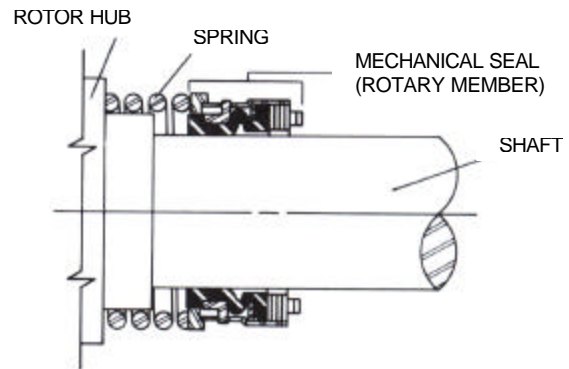

FIGURE 12
5. Place seal spring on shaft against rotor hub. Refer to Figure 12.